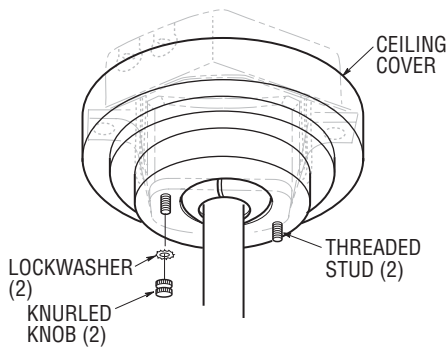

Figure 19
- 4. Screw the two 1-1/4" threaded studs (supplied) into the tapped holes in the hanger bracket (Figure 19).
- 5. Lift the ceiling cover up to the threaded studs and turn until the studs protrude through the holes in the ceiling cover (Figure 19).
- 6. Secure the ceiling cover in place by sliding lockwashers (supplied) over the threaded studs and installing the two knurled knobs (supplied). (Figure 19). Tighten the knurled knobs securely until the ceiling cover fits snugly against the ceiling.